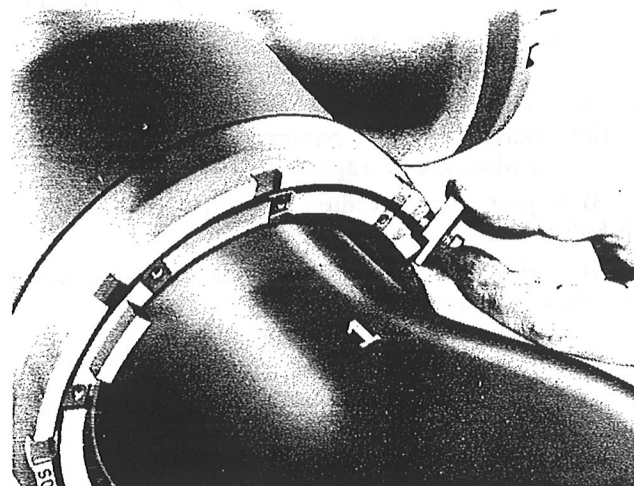

Figure 15—Install Blade Retaining Nut Lock
- o. Install the nut lock in the purple painted slot of the blade retaining nut and safety. (See figure 15.)